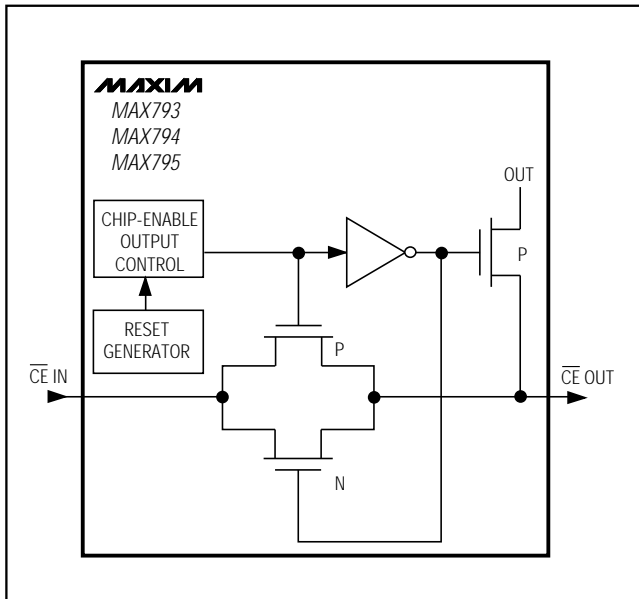

Figure 7. Chip-Enable Transmission Gate
Internal gating of chip-enable (CE) signals prevents erroneous data from corrupting CMOS RAM in the event of an undervoltage condition. The MAX793/MAX794/MAX795 use a series transmission gate from \overline{CE} IN to \overline{CE} OUT (Figure 7). During normal operation (reset not asserted), the CE transmission gate is enabled and passes all CE transitions. When reset is asserted, this path becomes disabled, preventing erroneous data from corrupting the CMOS RAM. The short CE propagation delay from \overline{CE} IN to \overline{CE} OUT enables these μP supervisors to be used with most μP s. If \overline{CE} IN is low when reset asserts, \overline{CE} OUT remains low for typically 10 μs to permit completion of the current write cycle.